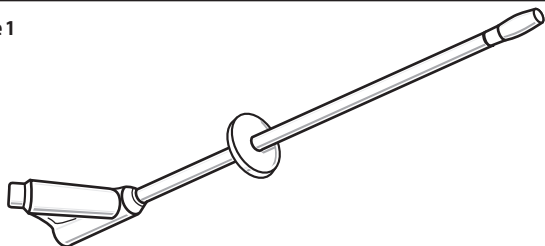

Figure 2
The AVANOS* MIC-KEY* Low-Profile Gastrostomy Feeding Tube (**Fig 2**) allows for delivery of enteral nutrition and medication directly into the stomach and/or gastric decompression.
2. Using the 6 ml Luer slip syringe contained in the kit, inflate the balloon with 5 ml (3 ml for 12 Fr) sterile or distilled water through the balloon port (**Fig 2-A**).